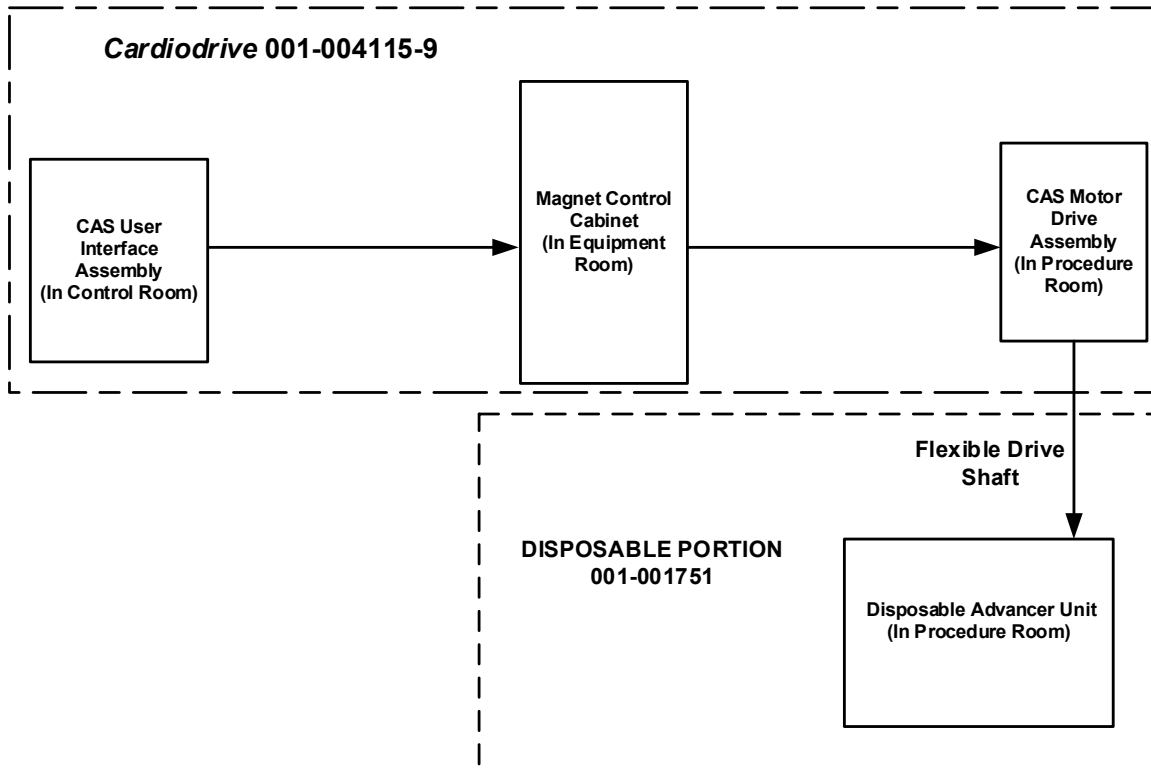

Figure 2. *Cardiodrive* interconnect diagram
The *Cardiodrive* system is to be configured so the Motor Assembly is mounted to the patient table rail. The User Interface (UI) resides in the Control Room. The disposable Advancer Unit is attached to the patient’s leg. The flexible drive cable is installed between the motor assembly and the Advancer Unit. The catheter is installed inside the disposable Advancer Unit itself. **Figure 2** displays the interconnection diagram for the *Cardiodrive* system.